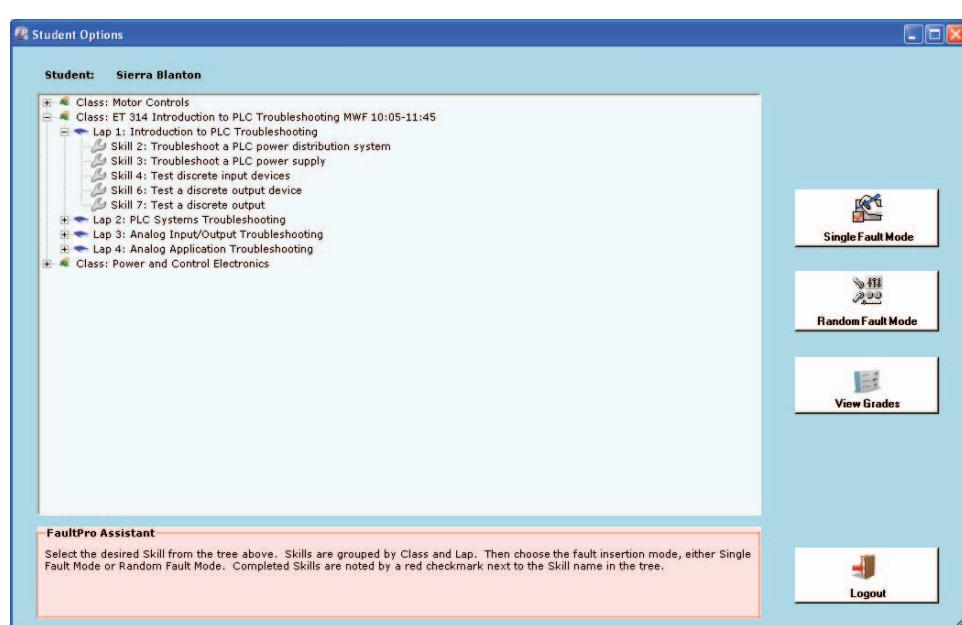

Figure 88. LAP Object Expanded
- A. Select the plus sign [+] next to the Class in which you are currently sitting/working to expand the class object and display its contents, as shown in figure 88.
- B. Select the plus sign [+] next to the LAP number/title that matches the one that you are currently working with to display its skills, also shown in figure 88.